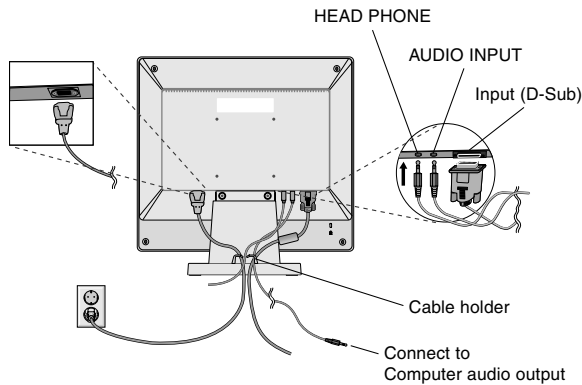

Figure B.1
3. Connect the 15-pin mini D-SUB of the video signal cable, Audio Cable and Headphone (not included) to the appropriate connector on the back of the monitor (**Figure B.1**).
4. Connect one end of the power cord to the monitor and the other end to the power outlet. Place the Video Signal Cable, Headphone (not included) and power cord to the Cable holder (**Figure B.1**).